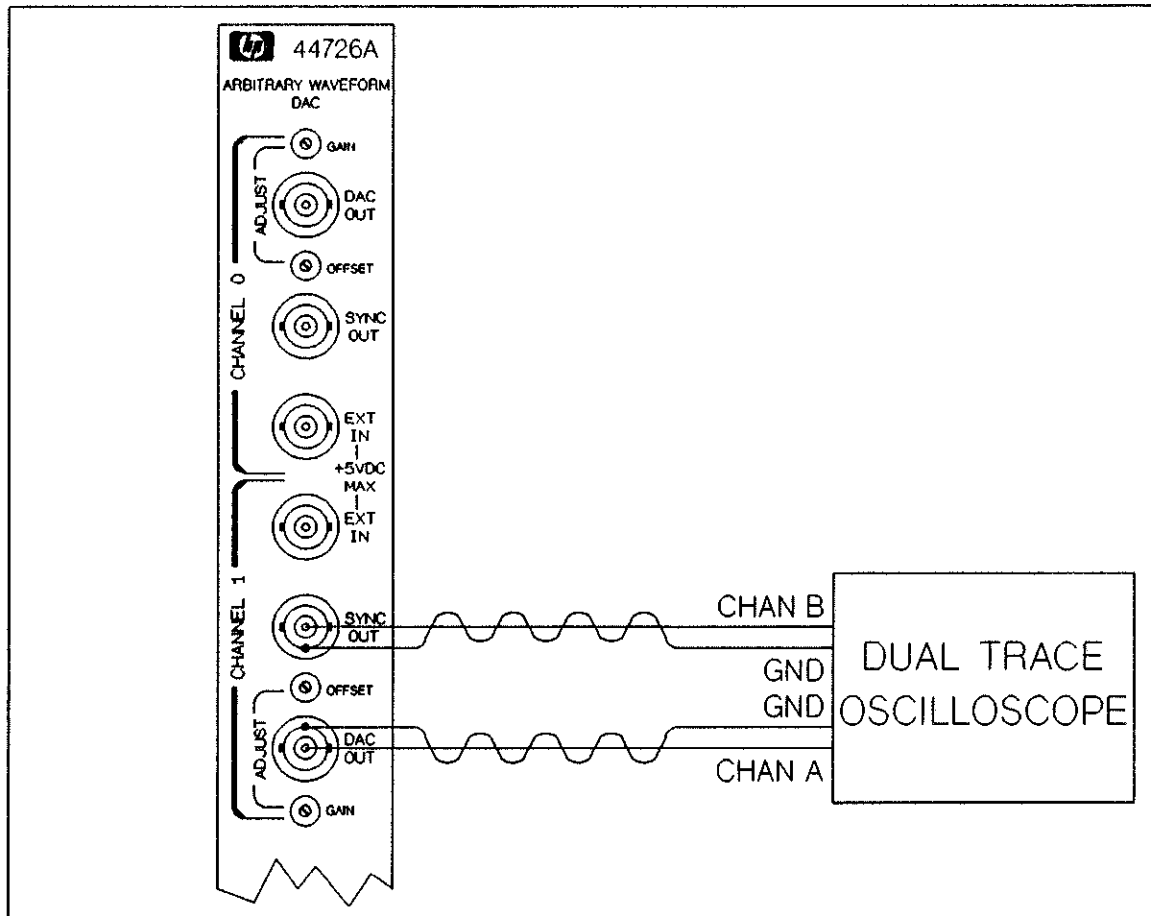

Figure 21-9 Channel 1 Sync Output Test Setup
21. Refer to Figure 21-9. Connect channel A of the oscilloscope to the accessory's DAC OUT connector on channel 1. Connect channel B of the oscilloscope to the accessory's SYNC OUT connector on channel 1.